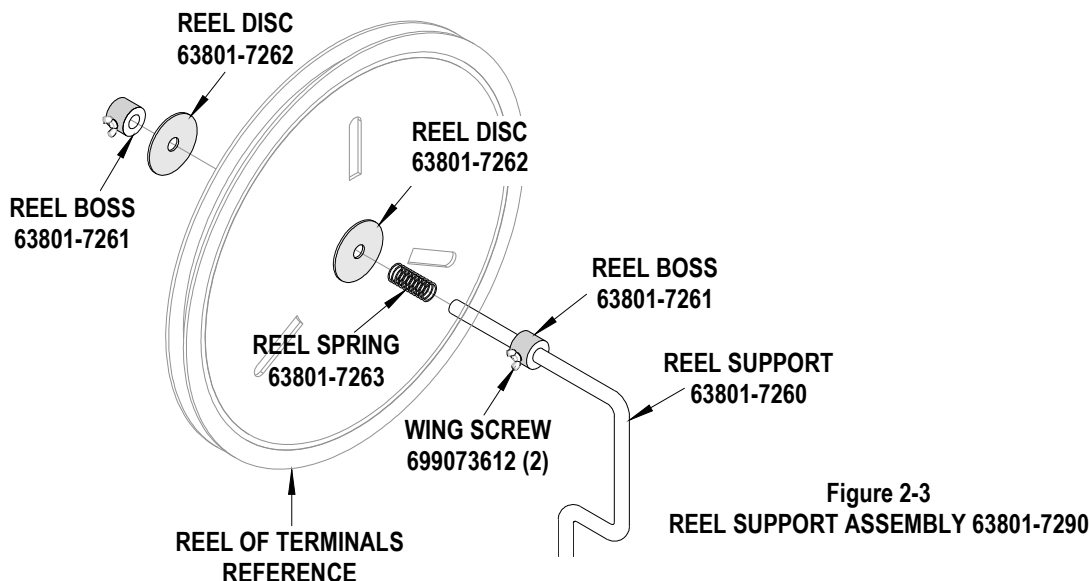

Figure 2-3
- 8 Slide the second reel boss onto the reel support with slight pressure against the back disc pushing on the spring and tighten the wing screw and securely tighten the wing screw. See Figure 2-3.